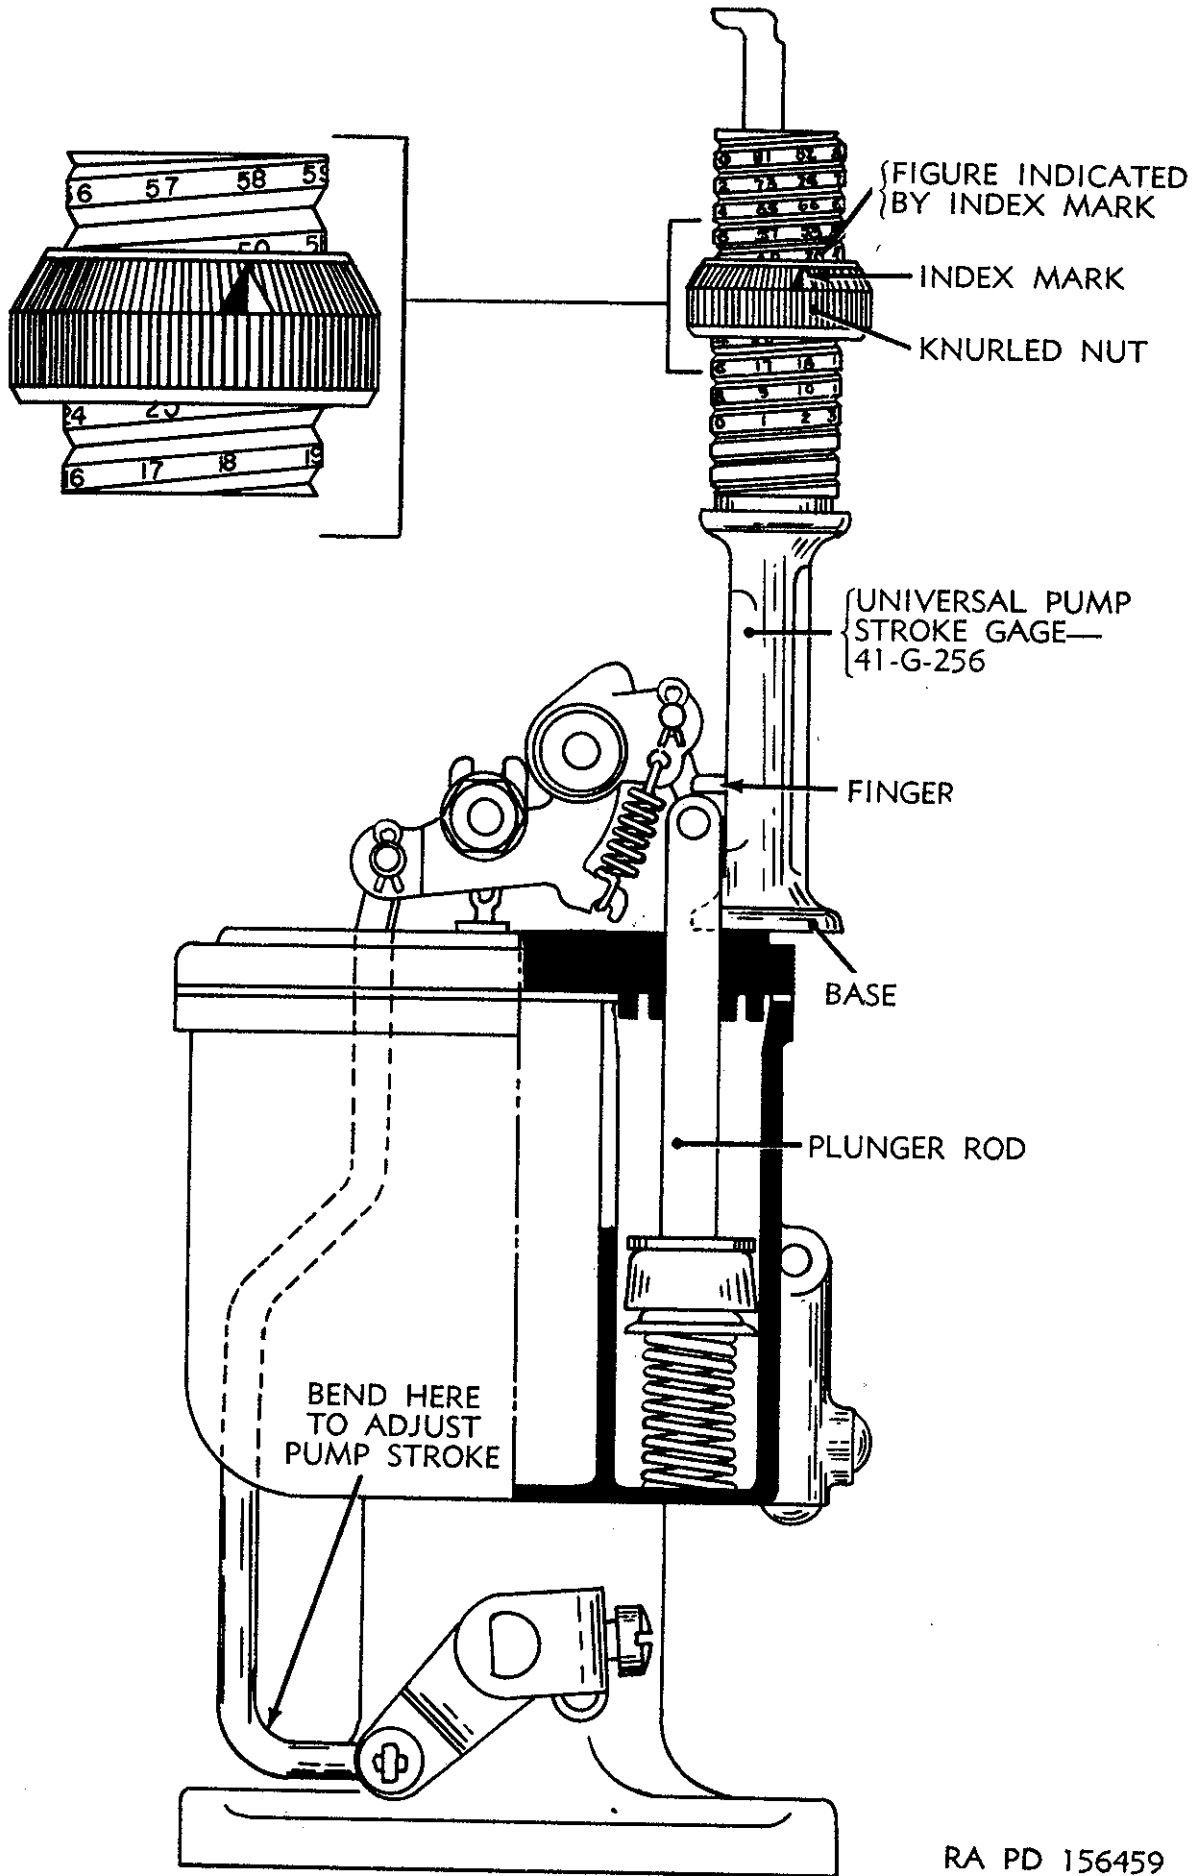

Figure 34. Gaging pump stroke with gage 41-G-256.
(fig. 34)
*Note.*—A tolerance of plus or minus one-sixty-fourth of an inch from specified plunger stroke (table V, par. 44) is permitted. Adjust stroke by bending throttle connector rod at lower angle next to throttle arm (fig. 34). To increase pump stroke, bend throttle connector rod to raise starting position of plunger. To decrease pump stroke, bend throttle connector rod to lower the starting position of plunger.